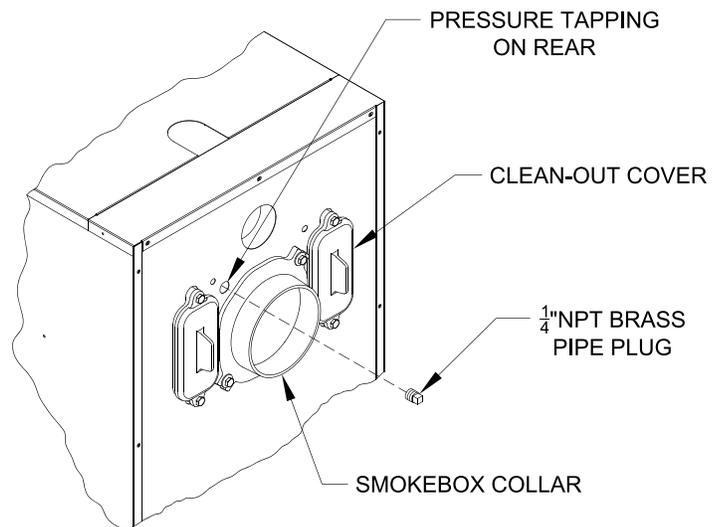

Figure 15: Smokebox Pressure Tapping for Checking Draft at Breech
NOTE: Secure chimney connector to cast iron smokebox collar with three (3) #10 x 1/2" self drilling hex head TEK screws provided in miscellaneous parts carton. Locate screws around perimeter of connector as shown in Figure 15 and approximately 1/2" in from edge. Use drill with 5/16" hex bit to drive screws through connector and smokebox collar.
2. Minimum Draft at Breech (Canopy) – The draft induced by a chimney must create at least a pressure of 0 (zero) inches water column (" w.c.) at the pressure tapping on the canopy mounted on rear of boiler (see Figure 15). The pressure at the canopy **cannot** be positive since this could create a condition that allows flue gas by-products to escape from the draft regulator (not supplied). A negative pressure reading up to -.03 inches water column is acceptable for proper operation. (See Tables 17, 18 and 19 Burner Specifications at the rear of this manual for more details)